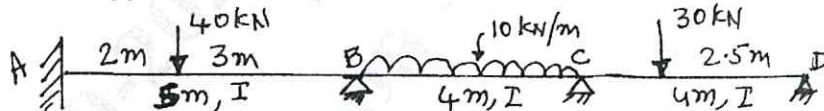

Fig.Q.3
- 3 Analyze the continuous beam shown in Fig.Q.3. Using moment distribution method. Draw BMD, SFD and EC if support A yields by 0.002 radians in clockwise direction, support B sinks by 30mm and support 'C' sink by 20mm. Take  $EI = 480\text{kN}\cdot\text{m}^2$ . (20 Marks)